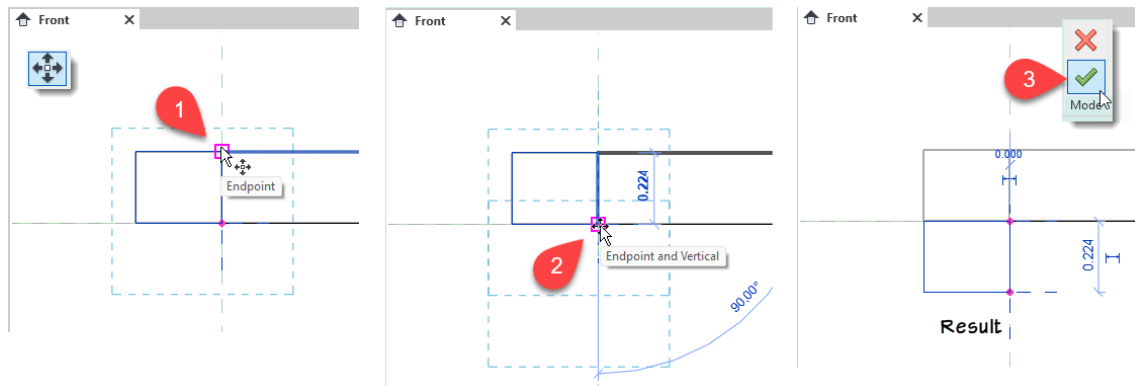

Figure 58—Move the profile down to align with the level
- ⇒ Finish Edit Mode (see Figure 58).